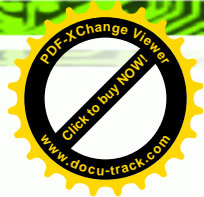

Figure 3-3: VESA Mount Retention Screw Holes
The panel PC is VESA (Video Electronics Standards Association) compliant and can be mounted on an arm, a stand or a bracket with a 100 mm/75 mm interface pad. M8 and M4 mounting screws can both be used for VESA mount. The VESA mount retention screw holes of the UPC-V312-D525 are shown in **Figure 3-3**.
Step 3: Align the retention screw holes on the mounting arm interface with those in the panel PC. The arm mount retention screw holes are shown in **Figure 3-3**.
Step 1: Locate the screw holes on the rear of the UPC-V312-D525. This is where the stand bracket will be attached. The stand mount retention screw holes are shown in **Figure 3-3**.